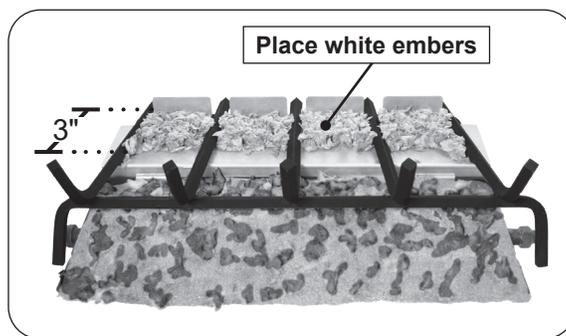

Fig. 2-1 Fill panel with white embers
5. Fill approximately 3" of the rear panel area between the grate fingers with **white embers**. Place and pack down the embers evenly to ensure a flat, uniform surface. See Fig. 2-1.